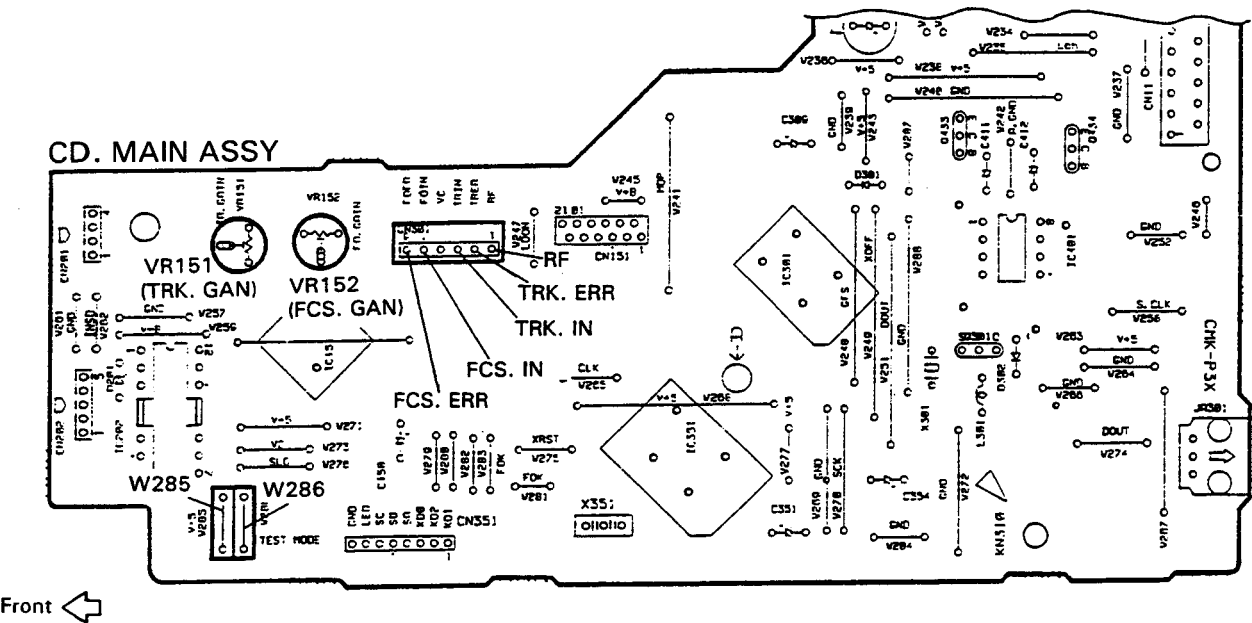

Fig. 3-1 Adjustment Location
2. Short-circuit jumper wires (W285 and W286) for the test mode (See Fig. 3-1).